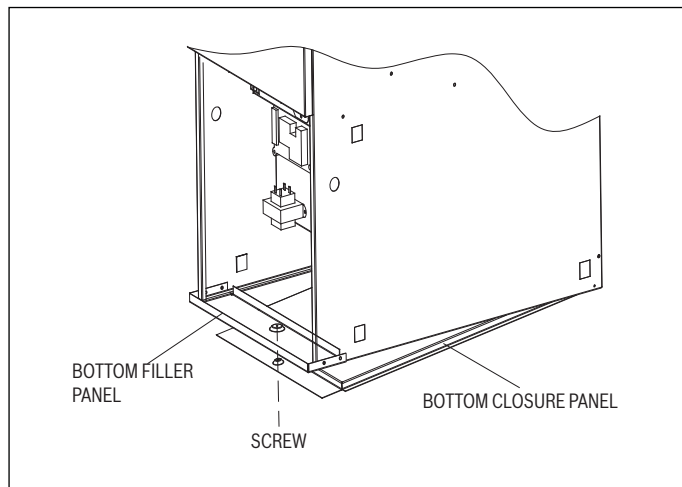

Figure 5 Removing bottom closure panel
1. Tilt or raise furnace and remove the screw holding bottom filler panel. (See Fig. 5.)
Do not use side return openings in downflow configuration. These furnaces are shipped with bottom closure panel installed in bottom return-air opening. Remove and discard this panel when bottom return air is used. See 7.1 and Fig. 5 for bottom closure panel removal instructions.